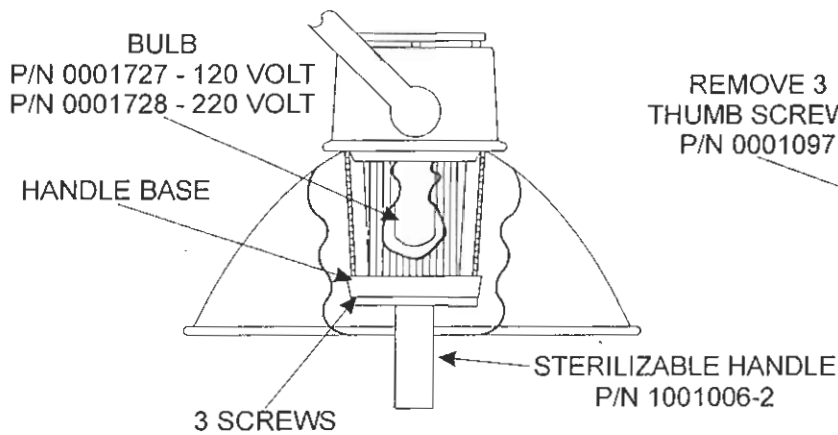

Figure 7
To remove the Sterilizable Handle (optional for Medi-Lite) grasp the handle and turn it counter-clockwise to unscrew it from the Handle Base (see Figure 7). Sterilize the handle utilizing steam sterilization of minimum 250° Fahrenheit for a minimum of 30 minutes in compliance with AAMI SSSA-1988: Good Hospital Practices, Steam Sterilization and Sterility Assurance, or equivalent method.
3. Remove two of the three screws inside the Handle Base (see Figure 7).